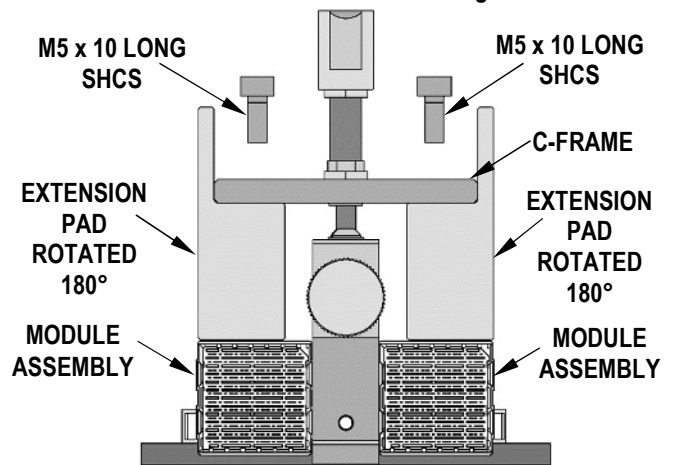

Figure 14
1. Remove the M5 x 14 long SHCS on each side where the extra modules are located. See Figure 14.